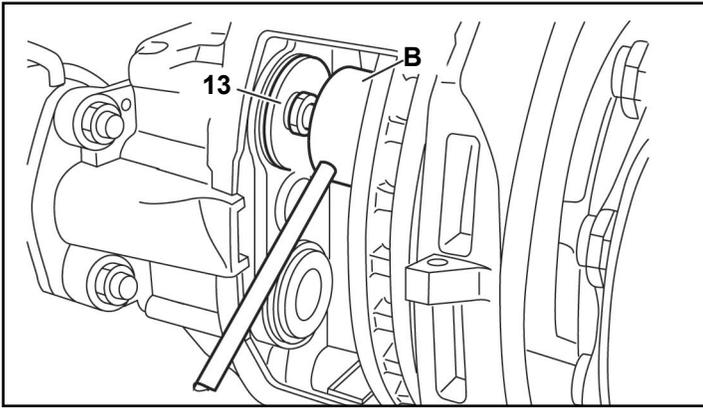

FIGURE 12 - ON VEHICLE TAPPET INSTALLATION
- Position a tappet assembly (13) onto each tappet bushing. Using press-in tool (B) in a reversed orientation with the press-in extension (T3) towards the threaded tube, install each tappet onto its tappet bushing - see Figure 12.